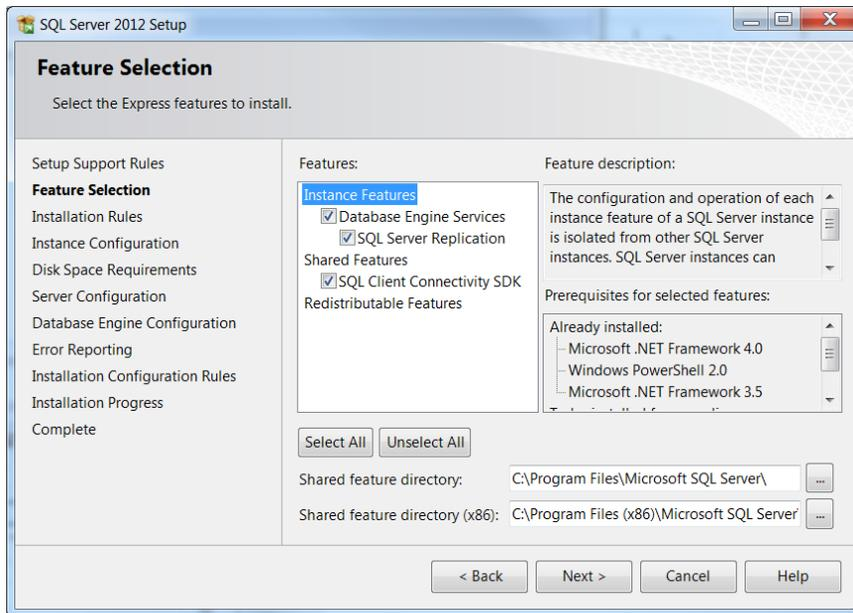

Figure 14: SQL Server 2012 Setup Feature Selection
8) At the Feature Selection window (Figure 14), keep default selections and click **Next**.